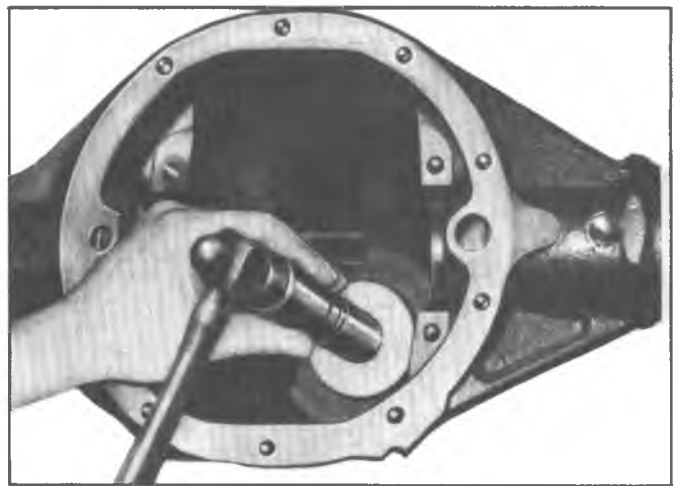

Fig. 16B—Installing Pinion Rear Bearing Cup
6. Install the rear cup, with the large end against the bore shoulder, using Installer J-0270-14 for Truck models, and J-9745 for Passenger Car, as shown in figure 16B.